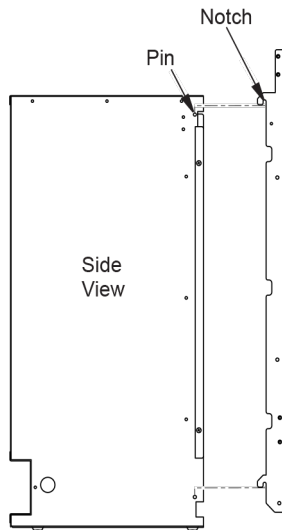

**Figure 10 - Front Frame, Hood and Door Assembly**
1. Unpack and Identify each Frame part shown in Figure 10.
3. Arrange all frame parts, except the screen rod cover, face down in the pre-assembled orientation on a protected surface (i.e. using Cardboard / Foam Packaging) as shown in Figure 10.
4. Assemble the Top, Sides and Middle Frame Parts using a No. 2 Phillips screw driver with 3/8 Wrench; 8 - Nuts, Screws and Washers, as shown in Figure 10.
5. Install the Control Access Door in position shown in Figure 10, using 2 -Screws and Washers in combination with 1 - Hinge Pin into each Side Frame using a No. 2 Phillips Screw Driver. See Figure 10.
**Hint:** Thread 1 screw with washer into one end of each Hinge Pin, (See Detail in Figure 10.), then insert the open end of the Hinge Pin through the pivot hole located on the lower inside of the Access Door, align with the mounting hole on the outer Side Face Frame and thread another screw and washer. Finish tighten from the inside screw to secure each Pin assembly.
6. Install the Hood to the lower edge of the Top Frame using the same tools in used in Step 4. See Figure 10 for correct hood position.